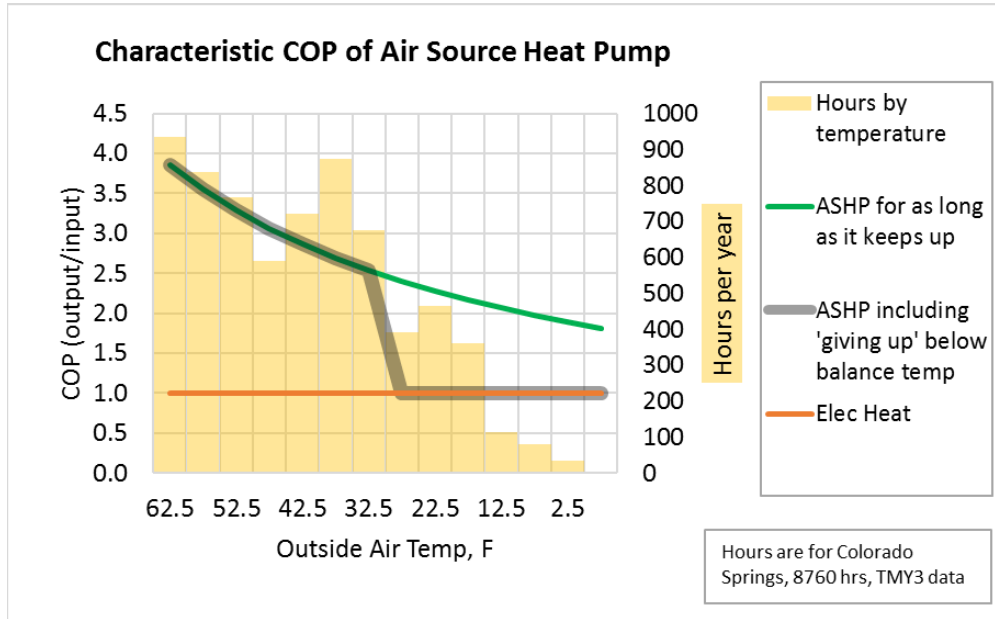

Figure 2
Figure 2 also shows the hours per year to expect the electric resistance heat to run. For the example shown (27F balance temp), this would be >1000 hours per year. The fuel switching aspect of this paper would be adjusted to switch over to the lower cost fuel before this happens, eliminating the high cost of electric heat and also controlling peak demand charges that could otherwise be set in cold weather.
- The chart presumes the heat pump compressor is active for all temperatures indicated, without electric resistance heat. Below the balance temperature, if reverting to straight electric heat, the unit efficiency drops sharply (**Fig 2**). Where the chart indicates economical electric heat pump operation even at the lowest value of OA on the chart, it is still more economical to use natural gas whenever straight electric heat is otherwise used.